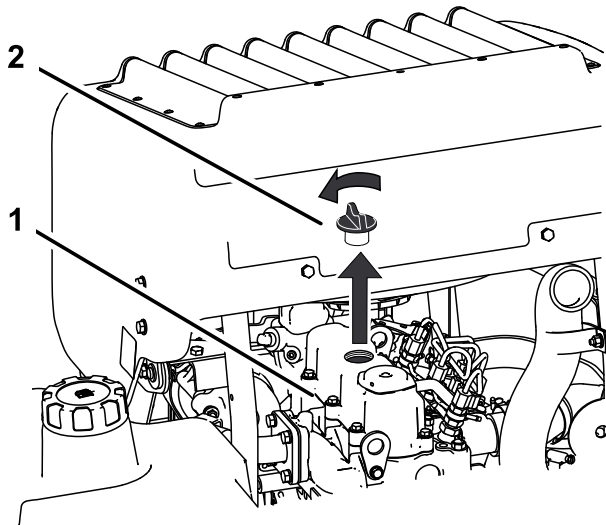

Figure 62
6. Remove the oil filler cap from the top of the engine (Figure 62).
2. Remove the oil-fill cap and dipstick (Figure 62).